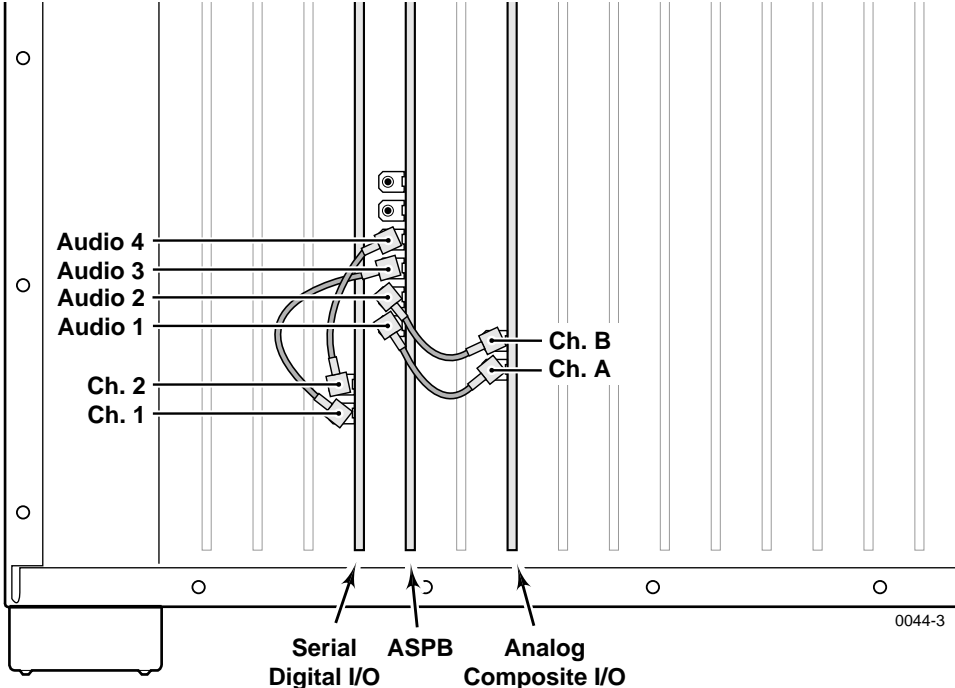

Figure 5. Example of Audio Clock Cabling in a PDR202D
In Figure 5, the Analog Composite I/O board installed in slot J11 makes it the first video board, going from J5 to J15, and the Serial Digital I/O board becomes the second video board. You would have to move the Serial Digital I/O audio clock cables from the ASPB Audio 1 and Audio 2 connectors to, respectively, the Audio 3 and Audio 4 connectors. Audio clock cable connections are then:
- a. Figure 5 is an example of a 2-channel PDR200 with one Serial Digital I/O board.